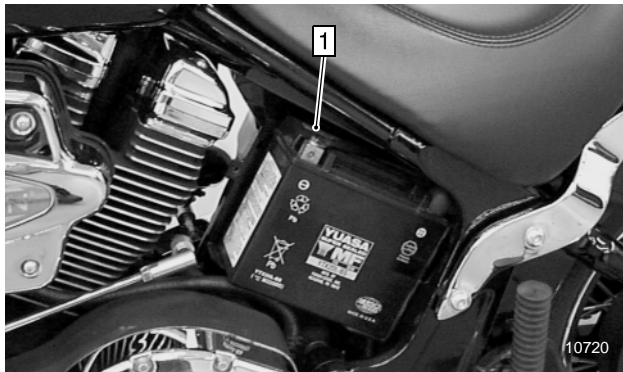

Figure 3
3. Remove the battery cover strap and the battery cover. Disconnect the negative cable from the battery (see Figure 3).